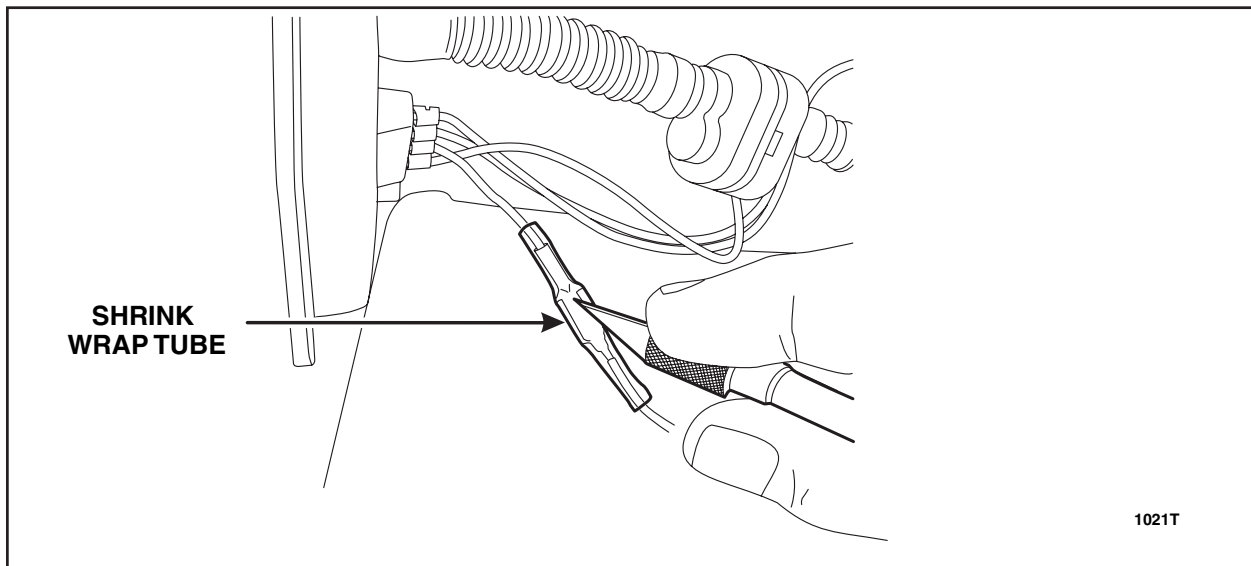

FIGURE 11
28. Using a utility knife or razor blade, carefully cut the shrink wrap tubing that surrounds the terminal connection lengthwise starting slightly more than half way to access the terminal lock above the yellow wire. See Figure 11.